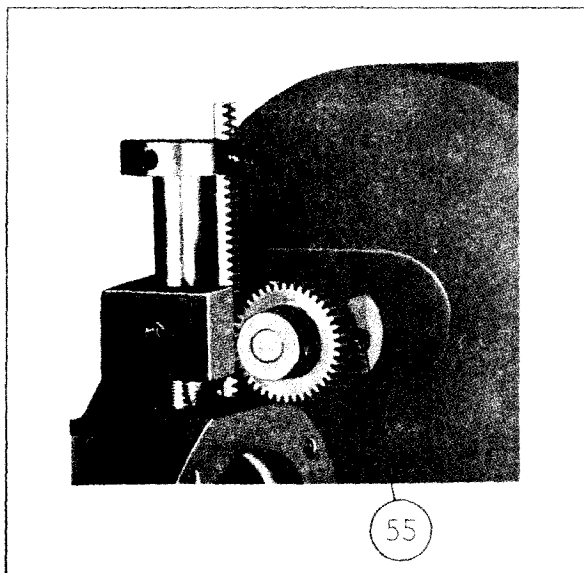

Figure 4-41. Monitor Drive Loading Spring in Place
Figure 4-41 shows the spring-loading system for the monitor pick-up. The rack should be meshed with the pinion in such a way that when the POWER SET con-
control is completely counter-clockwise, the end of the rack is 1/16" from the cavity. At this point the screw (55) in the pinion should be at three o'clock as shown. If necessary, reset the pinion to obtain this requirement, but retighten the set screws in the pinion a little at a time so that the pinion is not tilted on its shaft and so that there is negligible end play in the pinion drive. The collar should then be secured to the rack as shown in figure 4-41. The collar should not touch the end of the RF probe holder and if necessary the rack can be remeshed with the pinion so that the collar does not travel as far as the end of the RF probe holder. The spring can then be strung as shown.